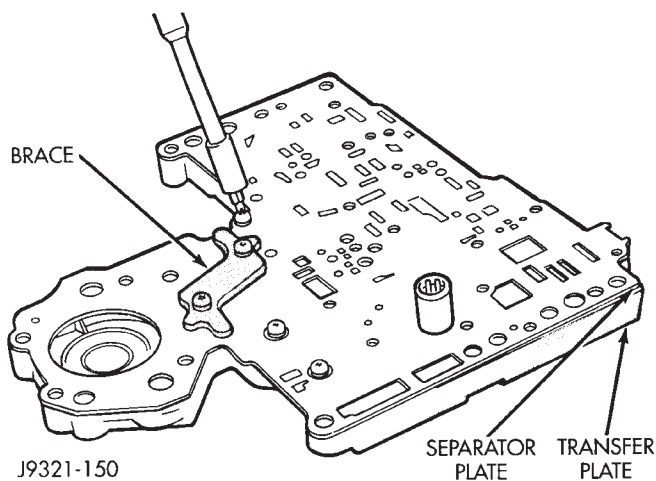

Fig. 70 Brace Plate
- (3) Align and position upper housing separator plate on transfer plate (Fig. 70).
- (4) Install brace plate (Fig. 70). Tighten brace attaching screws to 4 N·m (35 in. lbs.) torque.
- (5) Install remaining separator plate attaching screws. Tighten screws to 4 N·m (35 in. lbs.) torque.